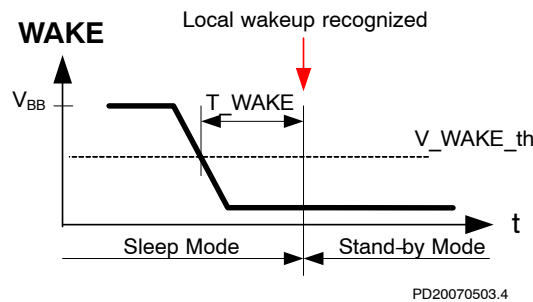

Figure 4. Local Wakeup Detection
- Local wakeup – when a high-to-low transition on pin WAKE is encountered and WAKE pin remains Low at least during T_{WAKE} – see Figure 4.